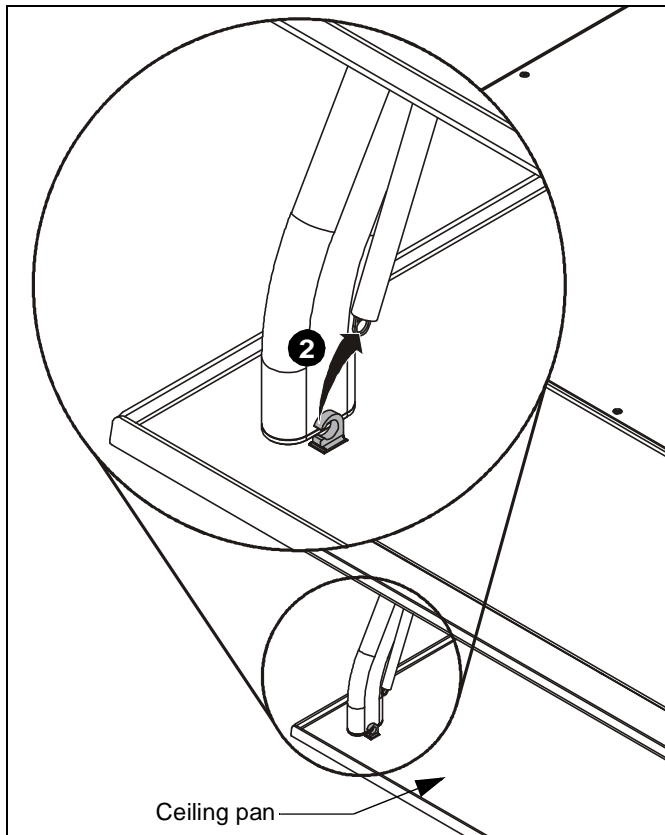

Figure 1
2. Unhook broken spring from ceiling pan. (See Figure 1)